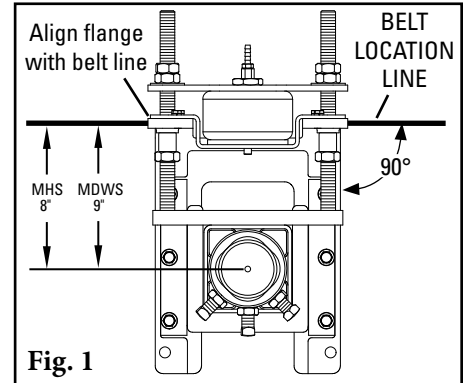

Fig. 1
1. **Install the air/water tensioner mounting bases.** Clamp the mounting base into position so the flange is even with the belt (Fig. 1). Bolt the mounting base in place. Locate and install the mounting base on the opposite side.
1. **Disassemble guide kit.** Remove nuts and washers from both sides of tensioner (Fig. 1).